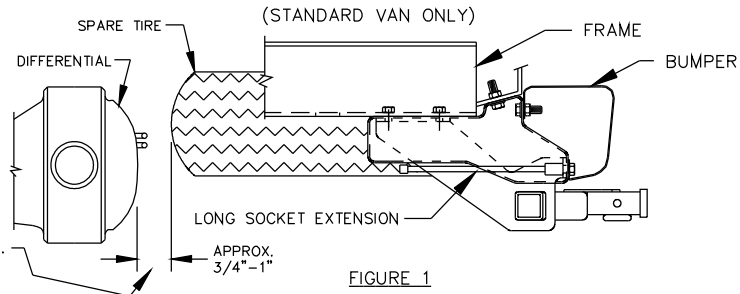

FIGURE 1
ON STANDARD VANS, A FULL SIZE SPARE CANNOT BE STOWED UNDER VEHICLE WITH HITCH INSTALLED, BECAUSE CLEARANCE WITH BRAKE LINE AND PARKING BRAKE CABLE MOUNTED ON DIFFERENTIAL MAY NOT BE ADEQUATE. ON EXTENDED VANS A FULL SIZE SPARE CAN BE STOWED UNDER VEHICLE WITH HITCH INSTALLED. IF CLEARANCE WITH ANY SPARE TIRE IS NOT ADEQUATE, SPARE MUST BE STOWED ELSEWHERE ON VEHICLE, SEE FIGURE 1.
3. INSTALL FASTENERS AS SHOWN IN FIGURE 2. A SOCKET AND LONG EXTENSION IS NECESSARY TO TIGHTEN THE LOWER BUMPER BOLTS, SEE FIGURE 1.